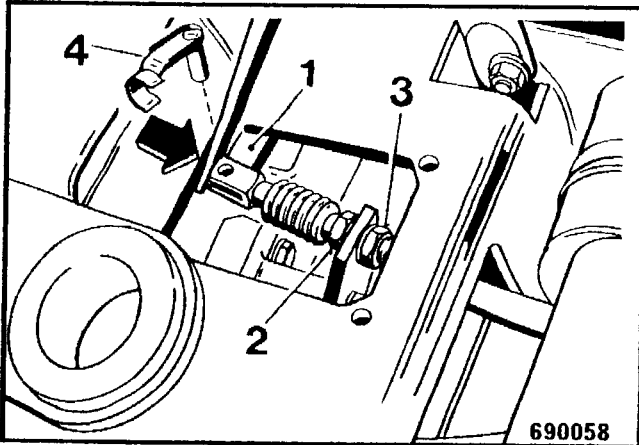

Fig. 5
- Push the control lever 1 (Fig. 5) to the rear stop by means of a pry bar or a screw driver.
- Grease the clip pin (4) and insert it into the fork head.
- Tighten the rear (2) and front (3) adjustment nuts to the fork.